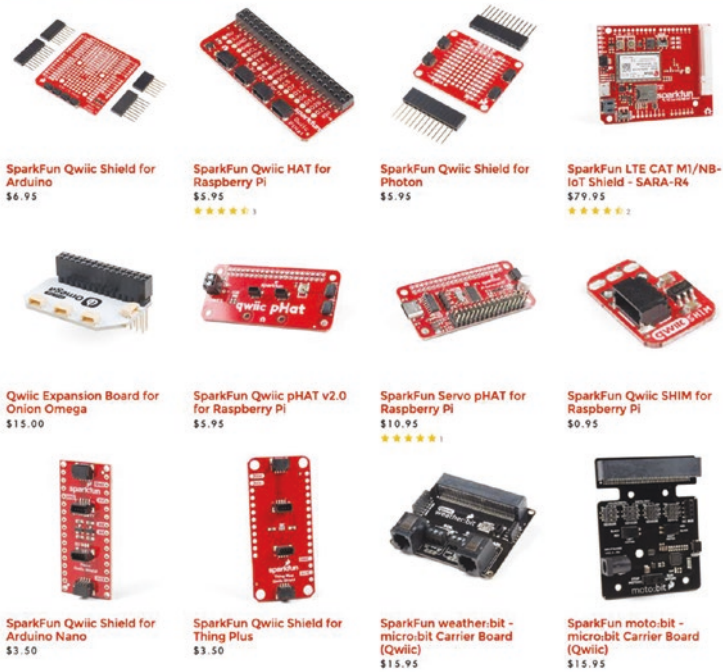

Figure A-3. Qwiic host boards (courtesy of SparkFun)
There are two things I like about the Qwiic system: (1) the wide variety of platforms supported and (2) the ability to incorporate I2C devices that aren't in the SparkFun catalog. Figure A-3 shows an excerpt of the Qwiic host boards available including a nifty, tiny Raspberry Pi board.